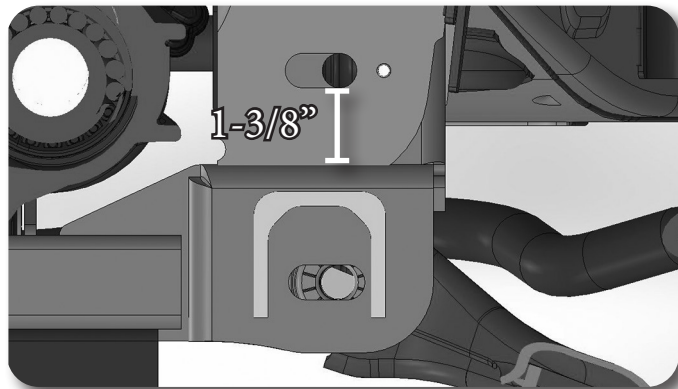

Figure 21A
32. Measure down 1-3/8" from the bottom edge of the rear control arm bolt hole on both the driver and passenger sides Fig. 21A & C. The passenger side will also have a vertical cut 1-3/4" in from the edge of the pocket as shown in Figure 21B & D.